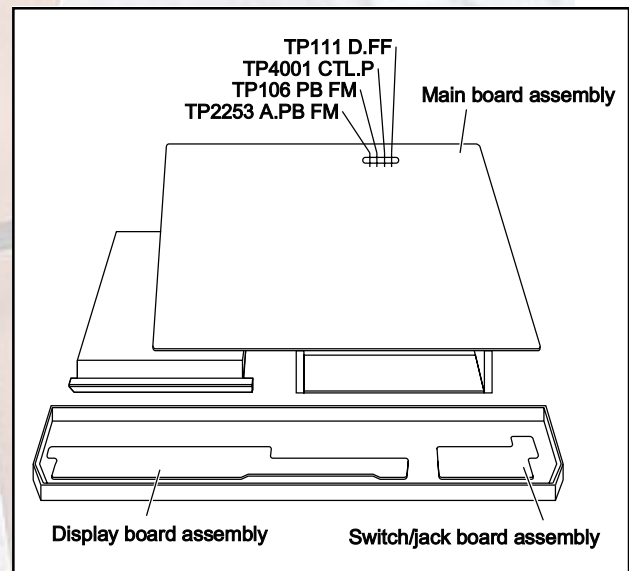

Fig.2-2a
- (1) Refer to the disassembly procedure and perform the disassembly of the major parts before removing the Mechanism assembly.
- (2) Remove the screws that fix the Mechanism, Main board assembly to the bottom chassis. If any other screws are used to fix the boards, remove them also.
- (3) Remove the combined Mechanism and Main board assemblies.
- (4) If any other major parts are used, remove them also.
- (5) Connect the wires and connectors of the major parts that have been removed in steps (1) to (4). (Refer to Fig. 2-2a.)
- (6) Place the combined Mechanism, Main board and other board assemblies upside down.
- (7) Insert the power cord plug into the power outlet and then proceed with the diagnostics and servicing of the board assembly.